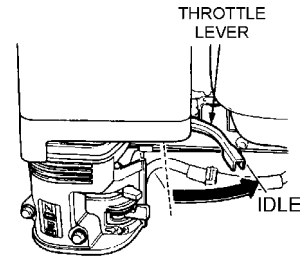

Figure 14. Throttle Lever (Idle)
- Move the throttle lever to the IDLE position (Figure 14) and run the engine for three minutes at low speed.